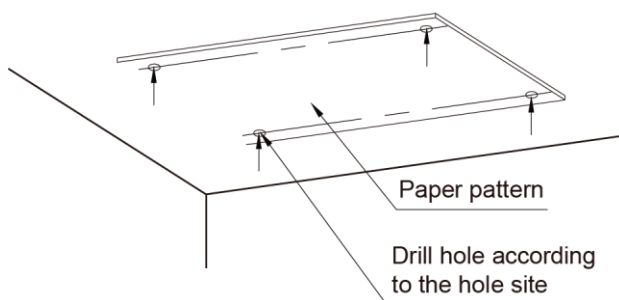
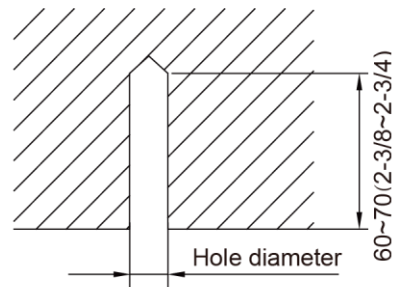

Fig 2
Fig 3
- 1) Stick the reference cardboard on the installation position; drill 4 holes according to the hole site on the cardboard as shown in Fig 2; diameter of drilling hole is according to the diameter of expansion bolt and the depth is 60-70mm($2\frac{3}{8}$ ~ $2\frac{3}{4}$ in.), as shown in Fig 3.